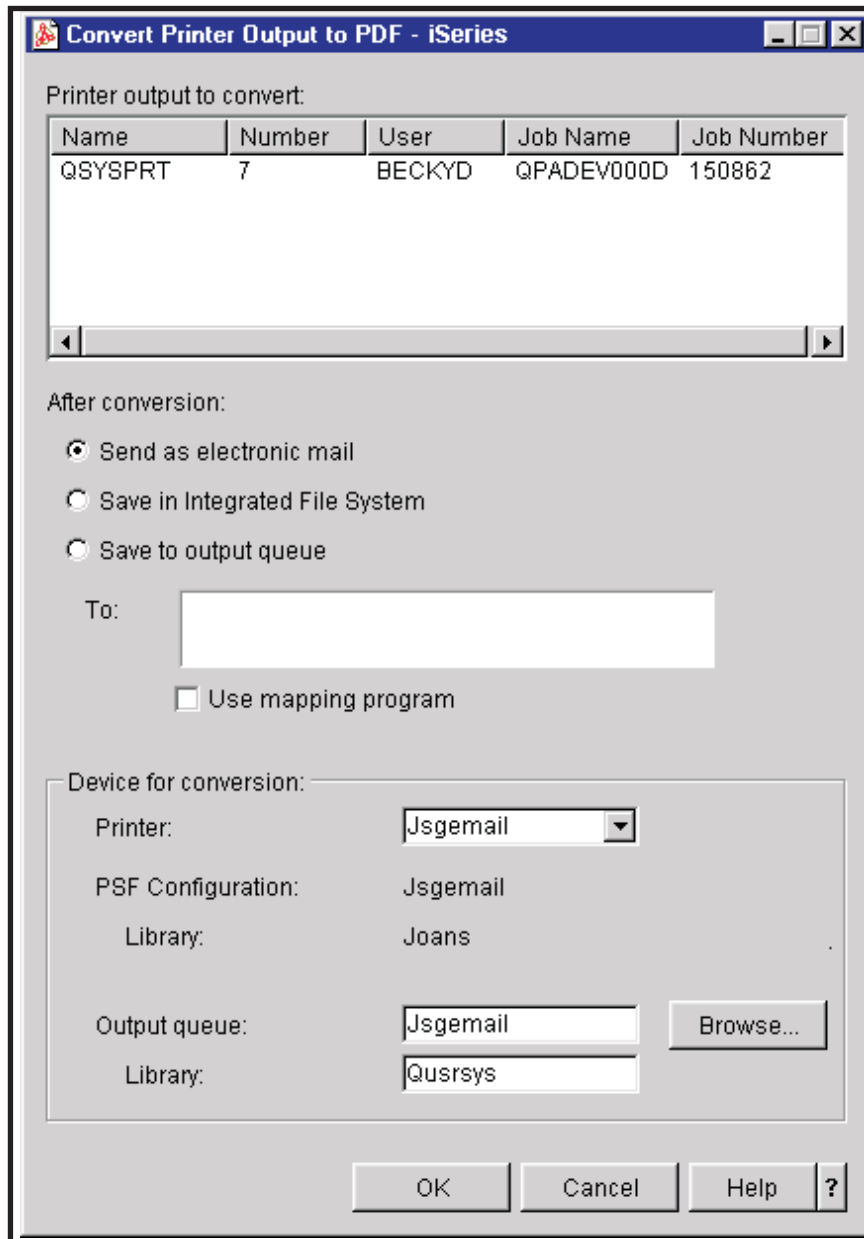

Figure 121. Convert Printer Output to PDF Window
- The “Convert printer output to PDF” window opens, as shown in Figure 121 on page 232. Use these fields to specify what is done with the PDF, then specify the e-mail address to which the e-mail is sent, the directory to place the output in, or the output queue to place the output on, as appropriate.